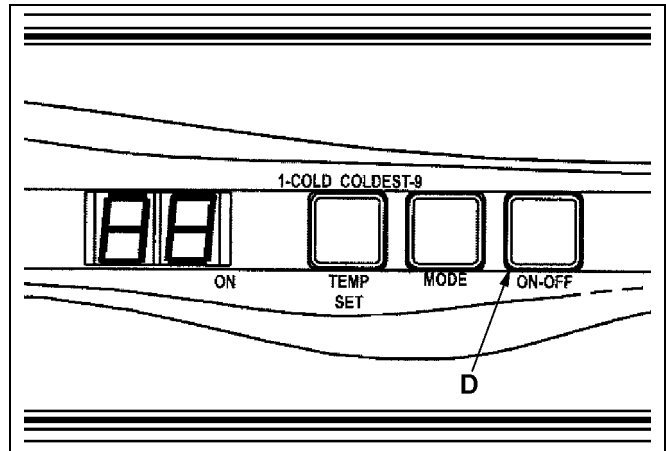

Figure 9-8 – Refrigerator Control Panel
Press the ON/OFF button (D) to turn the refrigerator on. See figure 9-8.